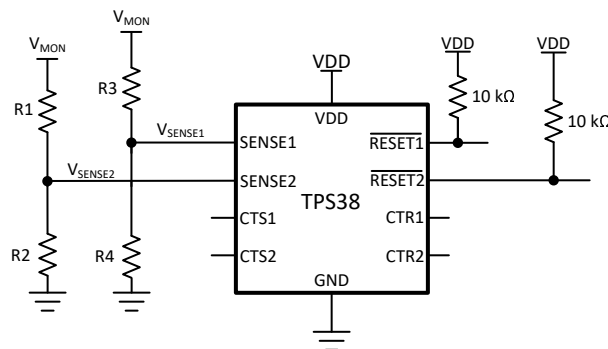

图 8-10. Adjustable Voltage Threshold with External Resistor Dividers
For example, consider a 12 V rail being monitored V_{MON} for undervoltage (UV) using channel 1 of the TPS38A010122DSKR variant. Using 方程式 7 and shown in 图 8-10, R_1 is the top resistor of the resistor divider that is between V_{MON} and V_{SENSE2} , R_2 is the bottom resistor that is between V_{SENSE2} and GND, V_{MON} is the voltage rail that is being monitored and V_{SENSE2} is the input threshold voltage. The monitored UV threshold, denoted as V_{MON-} , where the device will assert a reset signal occurs when $V_{SENSE2} = V_{IT-(UV)}$ or, for this example, $V_{MON-} = 10.8V$ which is 90% from 12 V. Using 方程式 7 and assuming $R_2 = 10k\Omega$, R_1 can be calculated shown in 方程式 8 where I_{R1} is represented in 方程式 9: